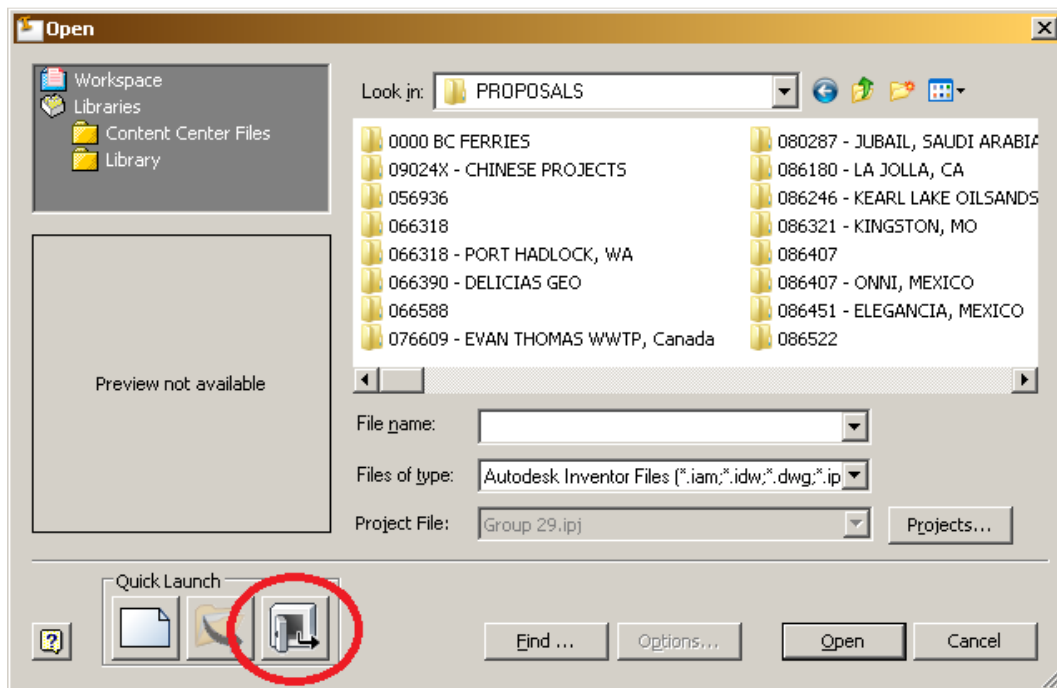

Figure 10 - Opening a File from Vault
3. In the standard Inventor “Open” command browser, selecting the vault icon in the Quick Launch section (circled in Figure 10) will change the browser from the local drive to the vault.